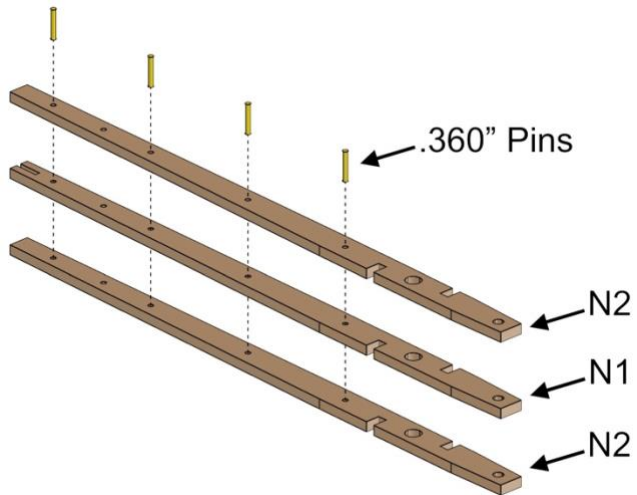

Fig. 61
- Align parts exactly as shown in Fig. 61.